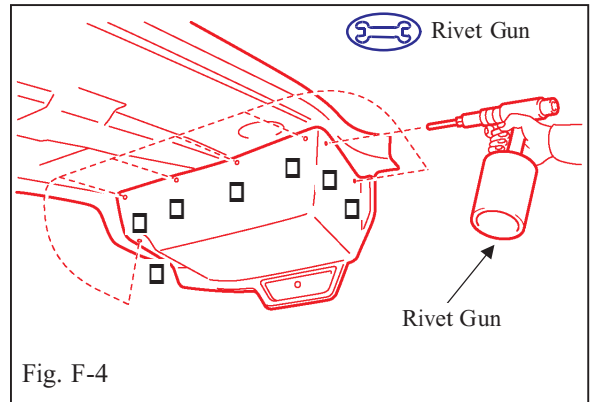

Fig. F-4
- +** 2. Install the luggage compartment trim cover to the front luggage compartment trim cover with seven (7) rivets. (Fig. F-4)